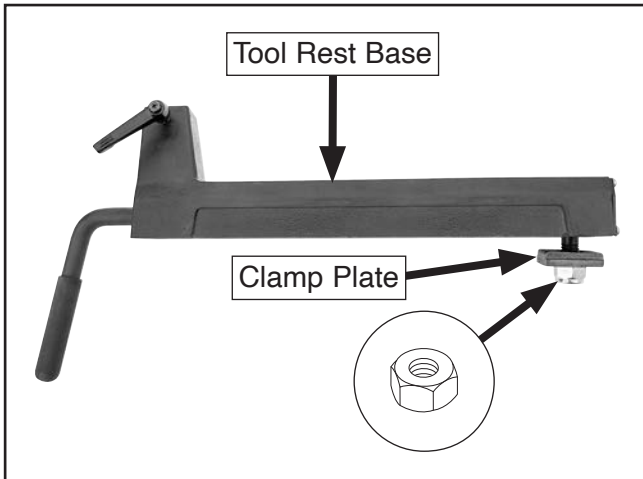

Figure 6. Location of tool rest base hex nut and clamp plate.
8. Remove hex nut and clamp plate from tool rest base (see **Figure 6**).